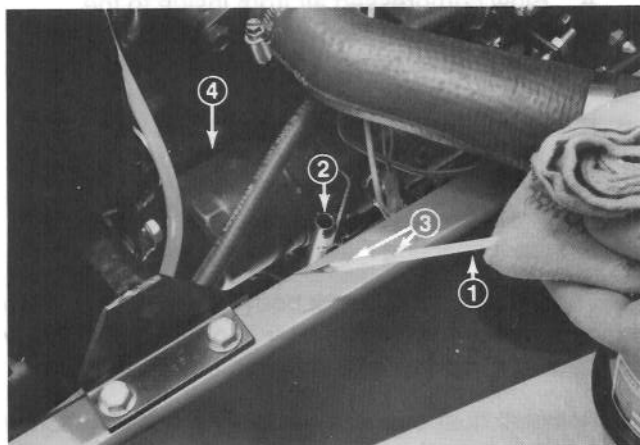

Figure 44
4. Remove oil drain plug and allow oil to flow into drain pan. Remove and replace oil filter (Fig. 44); refer to parts catalog for part number.